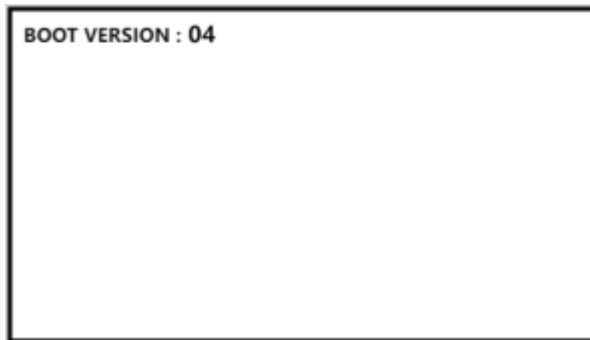

Figure 119
2) Turn on the machine, the machine automatically reads the software in the U-disk to upgrade. The interface shown in Figure 119 will appear. After that, it will switch to the standby interface, need to wait about 1 minute.